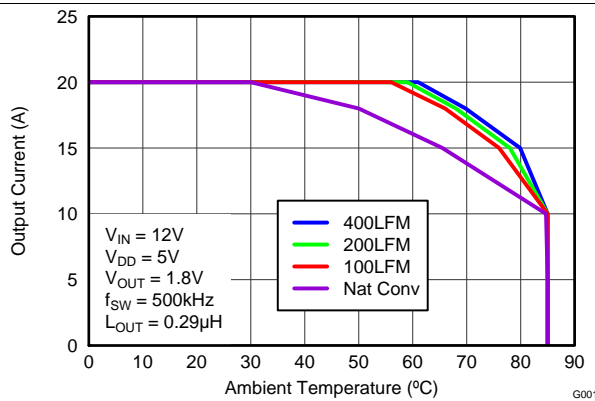
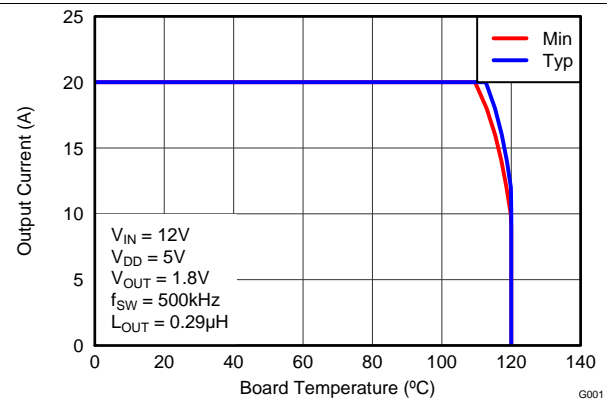

Figure 3. Safe Operating Area (SOA) – PCB Horizontal Mount ⁽¹⁾
Figure 4. Typical SOA ⁽¹⁾
The SOA curves in the CSD95379Q3M data sheet give engineers guidance on the temperature boundaries within an operating system by incorporating the thermal resistance and system power loss. Figure 3 and Figure 4 outline the temperature and airflow conditions required for a given load current. The area under the curve dictates the safe operating area. All the curves are based on measurements made on a PCB design with dimensions of 4 inches (W) x 3.5 inches (L) x 0.062 inch (T) and 6 copper layers of 1 oz. copper thickness.